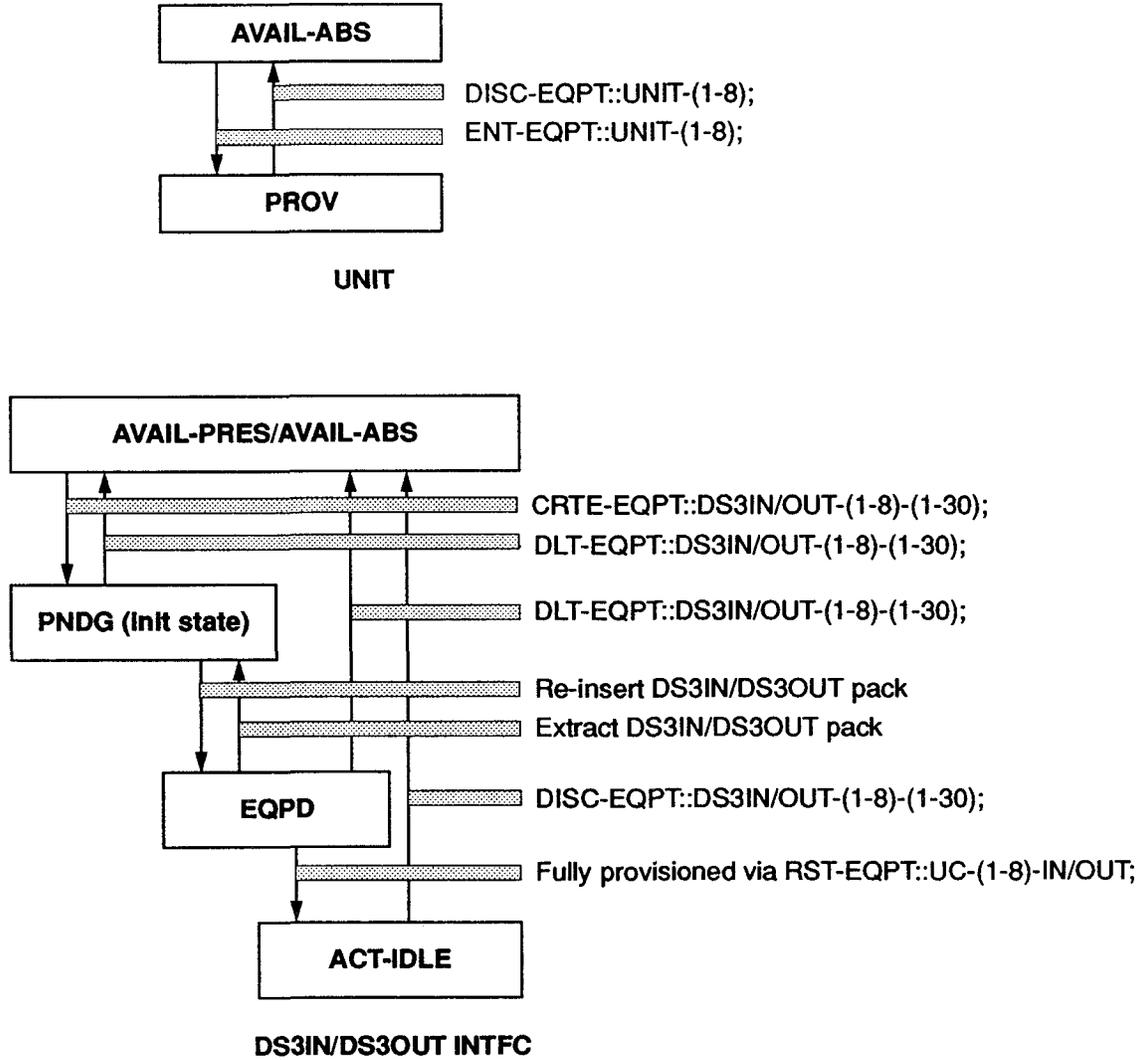

Figure D-1. Equipment Provisioning States
- Figure D-1: Equipment Provisioning States